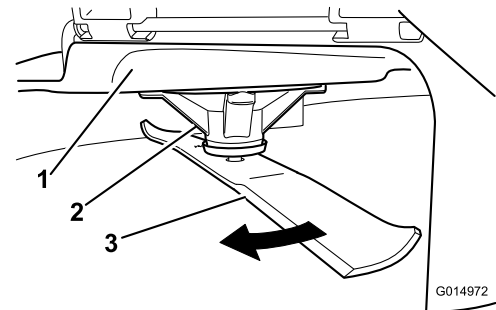

Figure 45
2. While wearing thickly padded gloves, or other adequate hand protection, slowly rotate the blade into a position that allows you to measure the distance between the cutting edge and the level surface the machine is on (Figure 45).